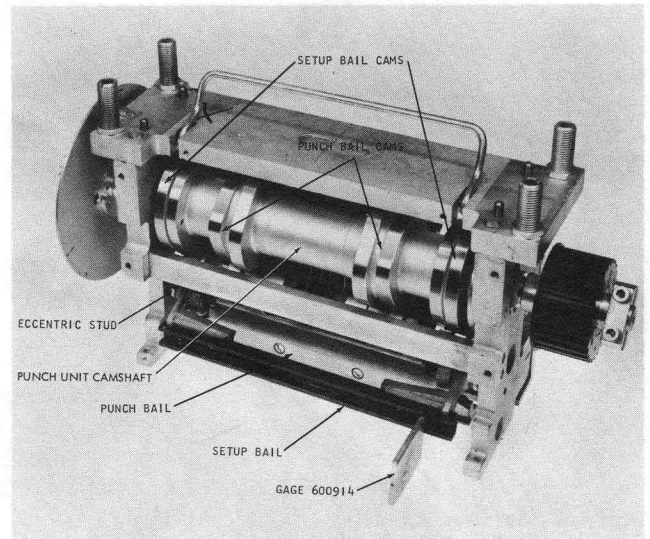

Figure 4-11. Drive Unit
1. The drive unit (Figure 4-11).
Interposer Setup Bail Adjustment (Figure 4-11)
5. Turn punch unit camshaft until setup bail rests on top of the gage (P/N 600914) (Figure 4-11). Make a note of the index setting.
7. The setup bail should rest on top of gage in the same manner as in step 5. Check the index setting to insure it has not changed since step 5. Use the eccentric stud at the left end of the bail to satisfy this condition (Figure 4-11).